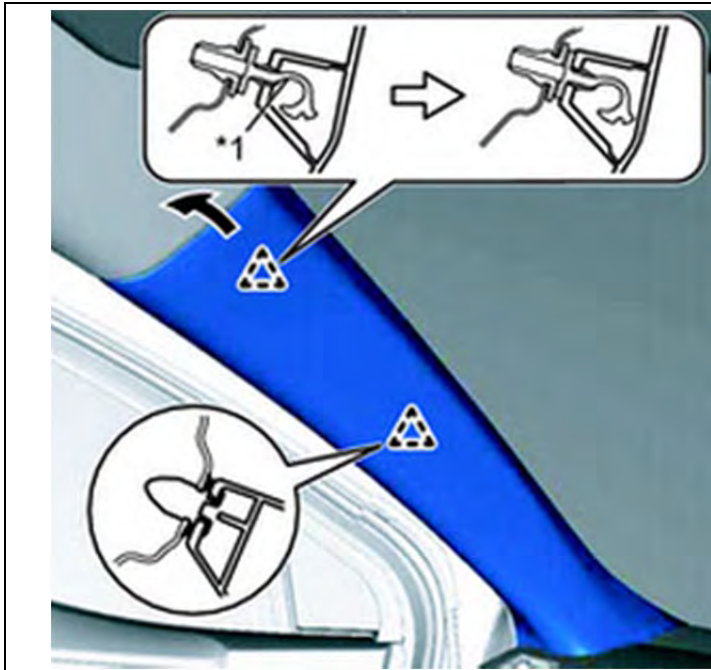

Figure 23
23. Engage the clip and front pillar garnish clip to install the front pillar garnish LH. See figure 23.